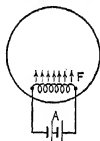

FIG. 170. Electrons are boiled off the surface of a heated filament.
**93. The Two-Electrode Vacuum Tube.** When one of these electrical conductors such as a tungsten wire is heated, electrons boil off its surface much as steam boils from the surface of hot water. In the latter case, if the receptacle containing the hot water is entirely closed so that none of the steam can escape, the particles will have to return to the water. If, on the other hand, a pipe allows the particles of steam to escape from the chamber as fast as they are boiled off, a current of steam continually flows from the surface of the water. In a very similar way, a filament *F*, Fig. 170, heated by an electric current from battery *A* boils off electrons into the surrounding space and if these are not removed from the vicinity of the filament, the greater number of these negative particles of electricity return to the filament. If, on the other hand, a plate *P* is brought near the filament